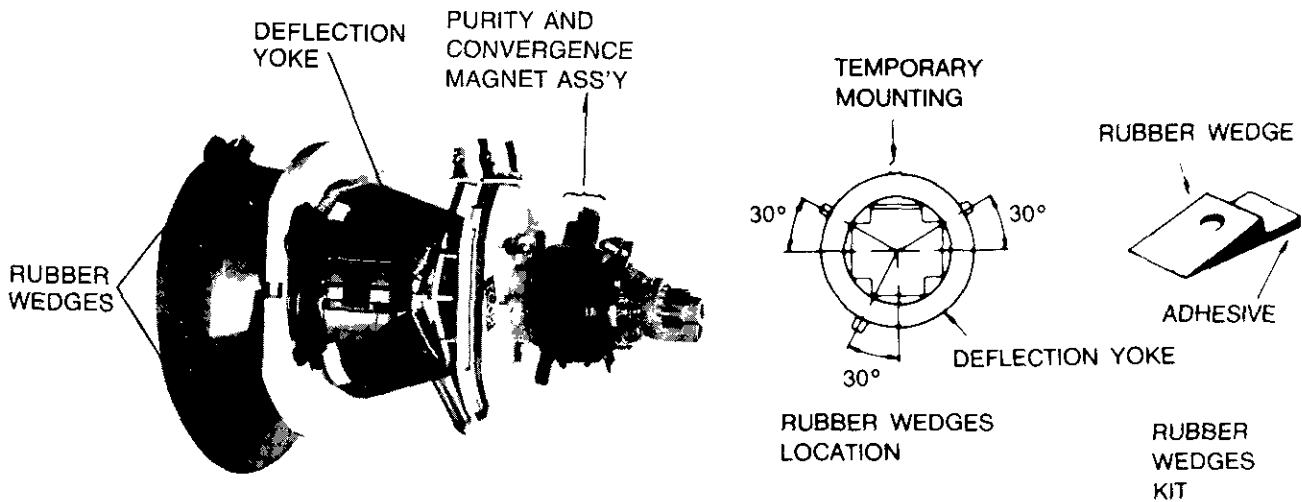

Figure 7
**CAUTION:** Convergence and Purity have been factory aligned. Do not attempt to tamper with these alignments. However, the effects of adjacent receiver components, or replacement of picture tube or deflection yoke may require the need to readjust purity and convergence. Convergence magnet assembly and rubber wedges need mechanical positioning following the figure 7. Before attempting any convergence adjustments this receiver should be operated for at least fifteen minutes. If adjustment is required the adjustments should be made in the following sequence.
2. Adjust DY to obtain a better convergence in the circumference by orbital movement of the front of the yoke, then secure the DY in appropriate position by placing the wedges as illustrates in figure 7. Tighten screw holding the DY. Stick 3 adhesive tapes on wedges as shown in figure 7.